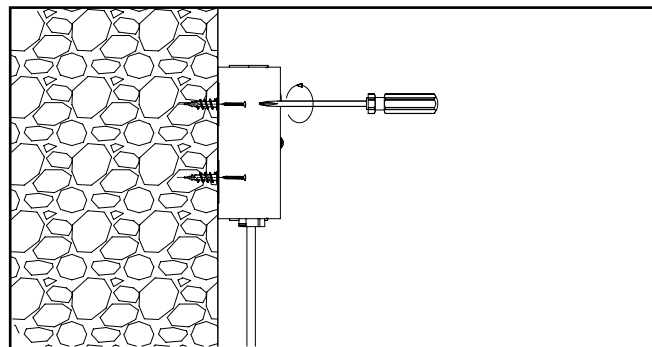

Figure 8.
- Connect power supply to building structure. See Figure 8.